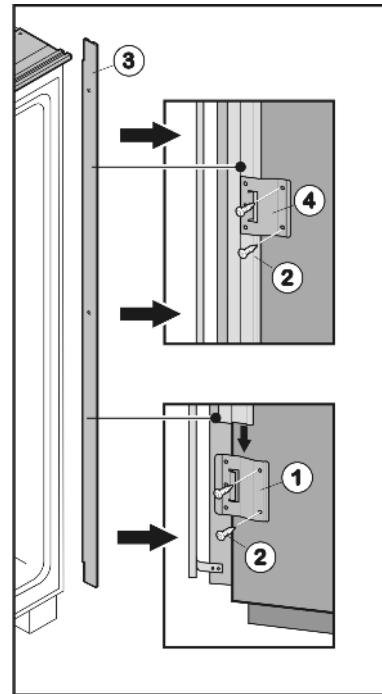
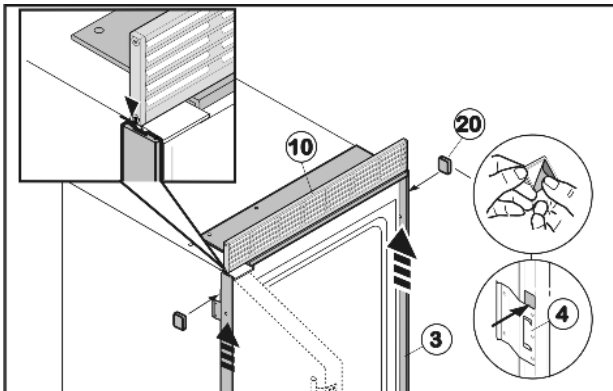
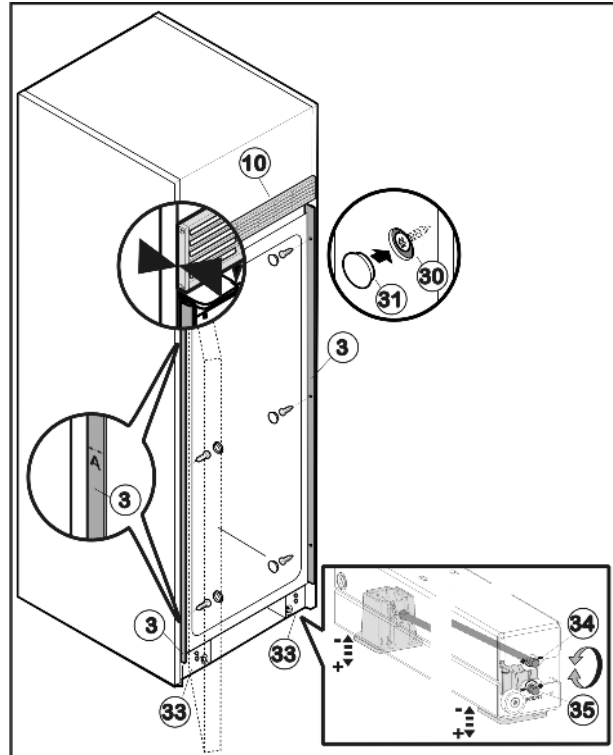

Fig. 32
Fig. 35
Fig. 36
- Fit retaining plate Fig. 32 (1) to the lower part of the handle side by inserting two screws Fig. 32 (2) into the pre-cut holes.
- Slide installation strip Fig. 32 (3) into the retaining plate Fig. 32 (1) from above.
- Push second retaining plate Fig. 32 (4) onto the installation strip Fig. 32 (3) from above and screw to the center of the side wall.
- Push third retaining plate Fig. 32 (4) onto the installation strip Fig. 32 (3) from above and screw to the top part of the side wall.
- ▶ Remove adhesive tape from the side installation strip *Fig. 35 (3)*.
- ▶ Push installation strip *Fig. 35 (3)* upwards until it is touching the ventilation grille *Fig. 35 (10)*.
- ▶ Glue the adhesive plates *Fig. 35 (20)* above the retaining plate *Fig. 32 (1)* and the retaining plates *Fig. 35 (4)* respectively to the installation strip *Fig. 35 (3)* such that it cannot slide downwards.
- ▶ Push the appliance into the recess until the rear edge of the ventilation grille *Fig. 36 (10)* is flush with the front edge of the side wall of the cabinet.
- ▶ Align appliance inside the recess above the roller bases *Fig. 36 (33)* using a spirit level: Use upper adjustment setting (1/4") *Fig. 36 (34)* for the rear adjustable foot and lower adjustment setting (1/4") *Fig. 36 (35)* for the front adjustable foot respectively. Turn clockwise to raise and counterclockwise to lower. Maximum adjustable height: 5/8 in (16 mm).
- ▶ At the top and bottom of the recess check the gap **A** between the front edge of the installation strip *Fig. 36 (3)* and the front edge of the side wall of the unit. It must be 1/2 " (13 mm). Realign the appliance in the recess if required.
- ▶ Secure appliance inside the recess using three screws *Fig. 36 (30)* on the handle side and the hinge side respectively. Do not scratch the side installation strip *Fig. 35 (3)* when doing so.
- ▶ Place cover caps *Fig. 36 (31)* over the screws.